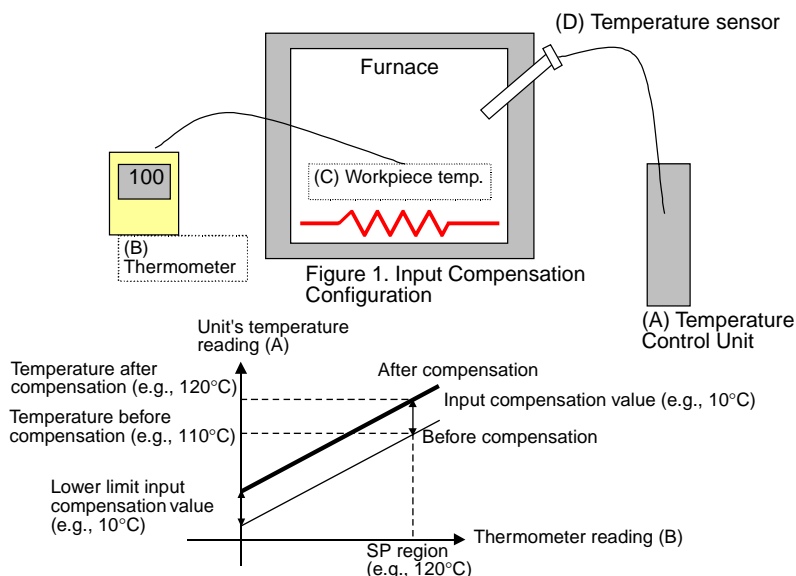

Figure 2. Compensation Graph of 1-point Compensation
- The input compensation value is just the difference between the workpiece's temperature (B) and the Temperature Control Unit's reading (A). Figure 2 shows the process values before and after compensation.